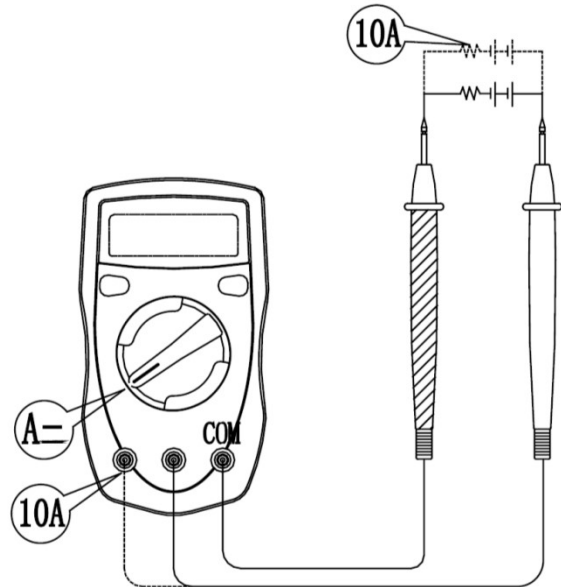

Fig. 1.4: Rotary switch positions for current measurements
- One of the $A \text{---}$ positions for DC current measurements (Fig. 1.4).